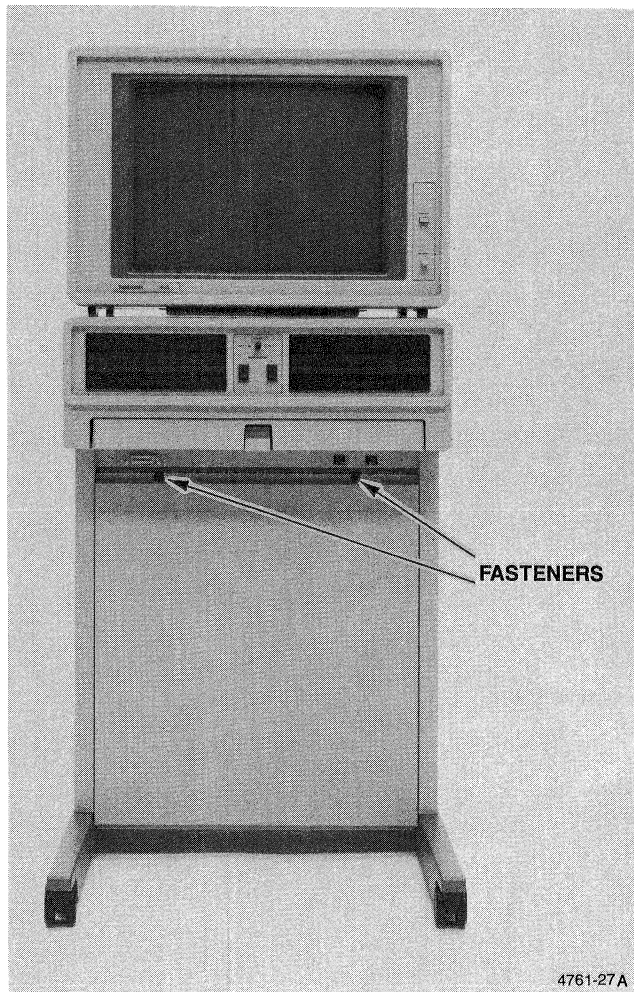

Figure 7. Front Panel Removal.
2. Turn the front cover fasteners $\frac{1}{4}$ turn counter-clockwise to release and remove the front panel (Figure 7).